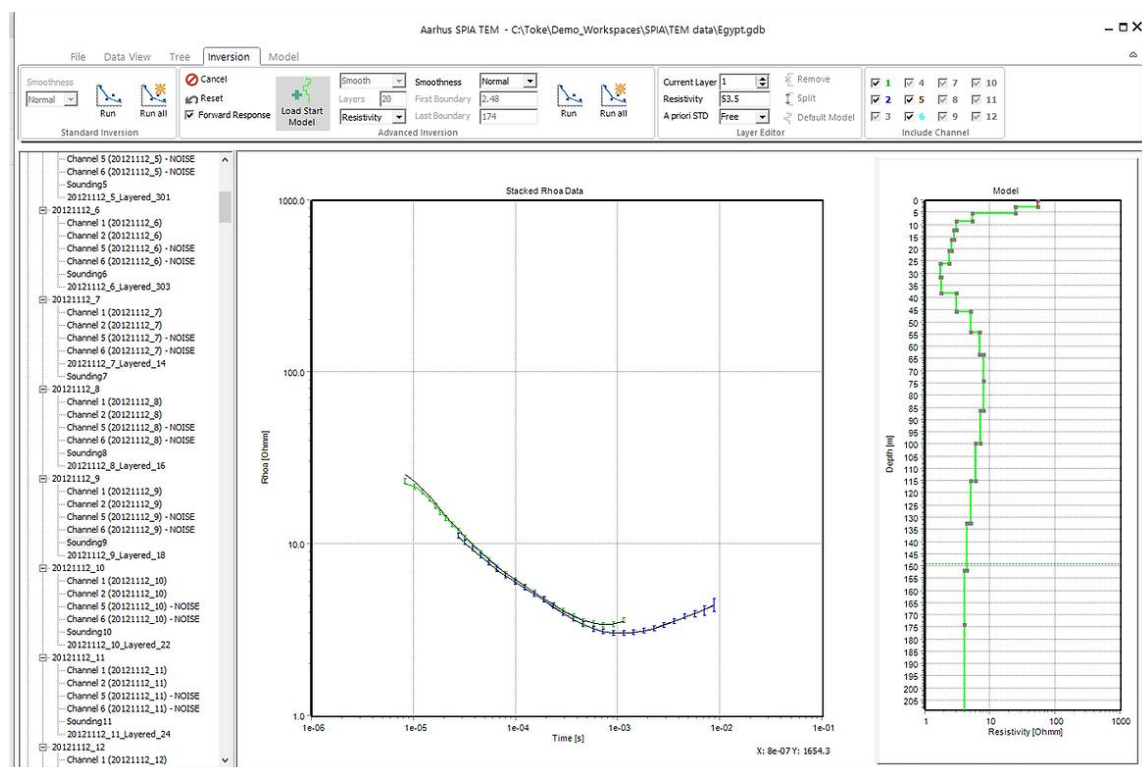

Figure 4. Aarhus SPIA processing screen.
- Several features in the app, Figure 4, are unlocked. These include notes, pictures of the site, and the re-location of the GPS's position from the corner of the transmitter loop to the center.
Figure 4 The picture shows the control app. The display to the left shows the measured decay curves, the display on the right show temperature, current and measurement time.